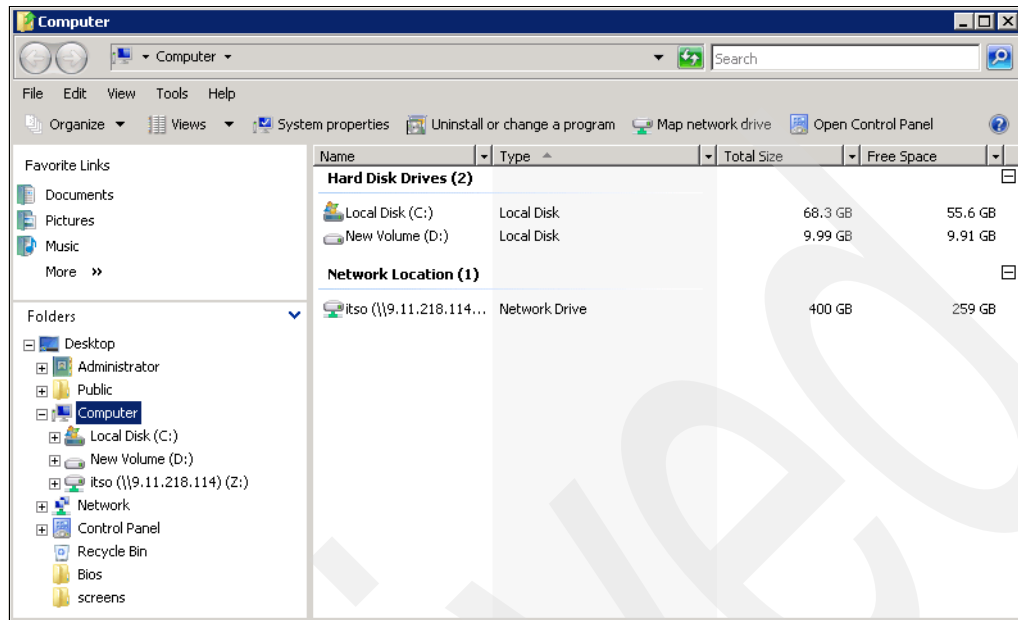

Figure 18-18 Logical drive is ready for use
4. We can now access the logical drive on the DS3200 as drive letter D:. We show this in Figure 18-18.